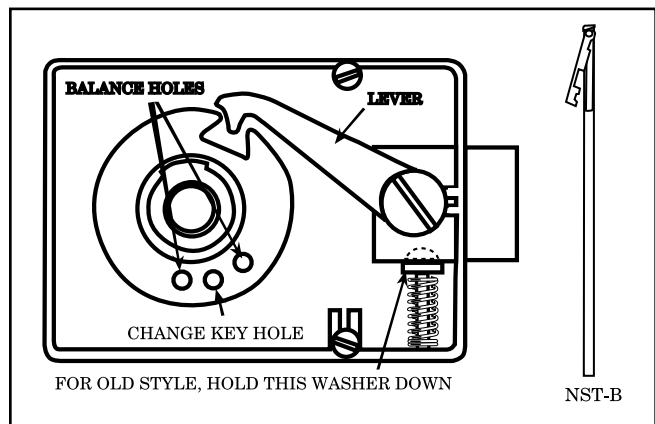
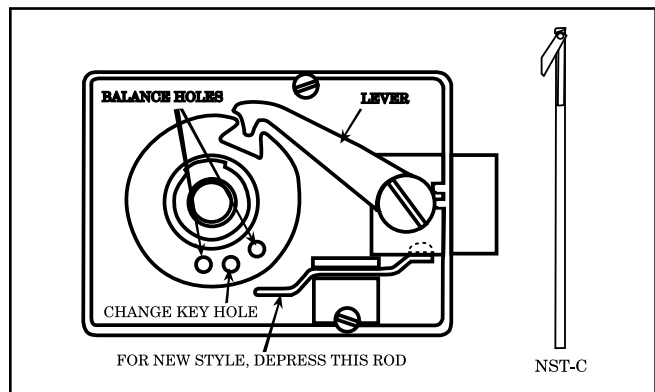

Fig. 5
Fig. 6
1. For the old style Sargent and Greenleaf safe locks, use NST-B to disengage the relocker. After making sure that the hinge moves freely, insert the tool through the spindle hole with the tip opening downward. Turn the tool about ten degrees so that the tip is in the eight o'clock position. The object here is to fit the sharp end of the tool between the relocking washer and the interior wall of the lock. The washer, which is held against the wall by a spring, can be worked out of the way by carefully pulling the tool outward. If you can't locate the washer, see if you can find the spring. It lies directly below the washer and is likely to feel similar to it. Once you have found the spring, turn the tool slightly higher to pick up the washer. See Fig. 5. 2. The new style Sargent and Greenleaf lock is the same as the previous model, although the relocker has been simplified. This proves to be considerably easier to service and open. After seeing that the hinges are operating smoothly, insert NST-C through the spindle hole so that the tip points down. All that has to be done here is to depress the bar which is in the six o'clock position- straight down. Simply pull it in to disengage the relocker. While holding relocker in, turn tool "D" counterclockwise to draw back the bolt. See Fig. 6.